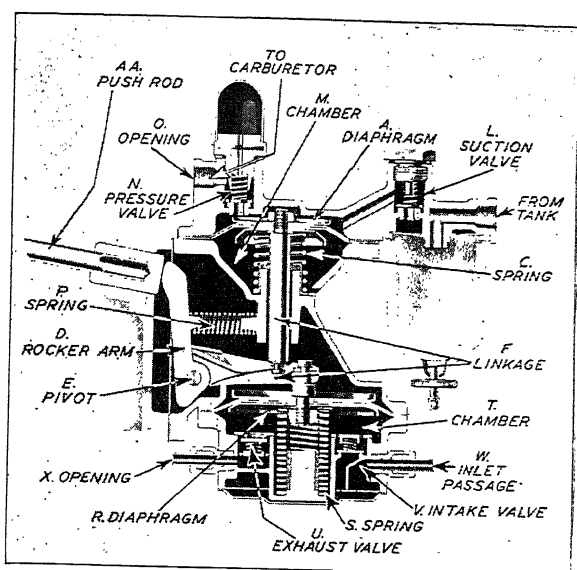

Fig. 9. Combination Fuel and Windshield Wiper Vacuum Pump
**Fuel Pump.** The type "T" AC combination fuel and vacuum pump is used on the 34-50 series and is mounted on the right side of the crank case, being driven directly by an eccentric on the crankshaft through a push rod AA, Fig. 9, supported in bosses in the crank case. If necessary to remove the push rod, first remove the cover plate. In doing work on this type of equipment, cleanliness and good tools are prime essentials.
**Gasoline Pump.** The operation of the gasoline pump unit is as follows. The rotation of the eccentric on the camshaft actuates the rocker arm *D*, Fig. 9, (through an operating rod on 34-60 and 34-90 series) pivoted at *E* which pulls the linkage *F* and in turn the diaphragm *A* downward. The downward movement of the diaphragm *A* creates a vacuum in the chamber *M* which draws fuel through the suction valve *L* in the outlet of the fuel filter. On the return stroke of the rocker arm *D*, the spring *C* moves the diaphragm *A* upward, forcing fuel from the chamber *M* through the pressure valve *N* and opening *O* to the carburetor. When the carburetor bowl is filled, the carburetor float closes the inlet needle valve which
**Windshield Wiper Vacuum Pump.** The operation of the vacuum pump unit is as follows. The rotation of the camshaft eccentric operates the rocker arm *D*, Fig. 9, pivoted at *E*, which pushes the link *F* and in turn the diaphragm *R* downward, expelling the air in chamber *T* through the exhaust valve *U* and opening *X* to the intake manifold. On the return stroke of the rocker arm *D* the spring *S* moves the diaphragm *R* upward, creating a suction in the chamber *T*, opening intake valve *V*, drawing air through inlet passage *W* from the windshield wiper. When the windshield wiper is not being used, the manifold vacuum holds the diaphragm *R*